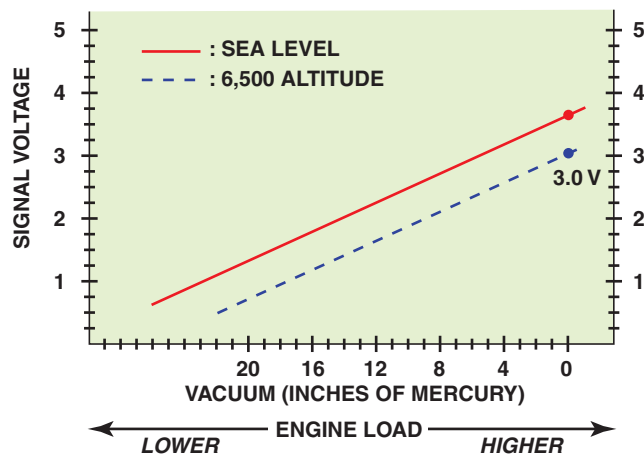

FIGURE 15-6 Altitude affects the MAP sensor voltage.
- The altitude is also reset when the engine is accelerated to wide-open throttle and the MAP sensor is used to reset the altitude reading. ● **SEE FIGURE 15-6.**